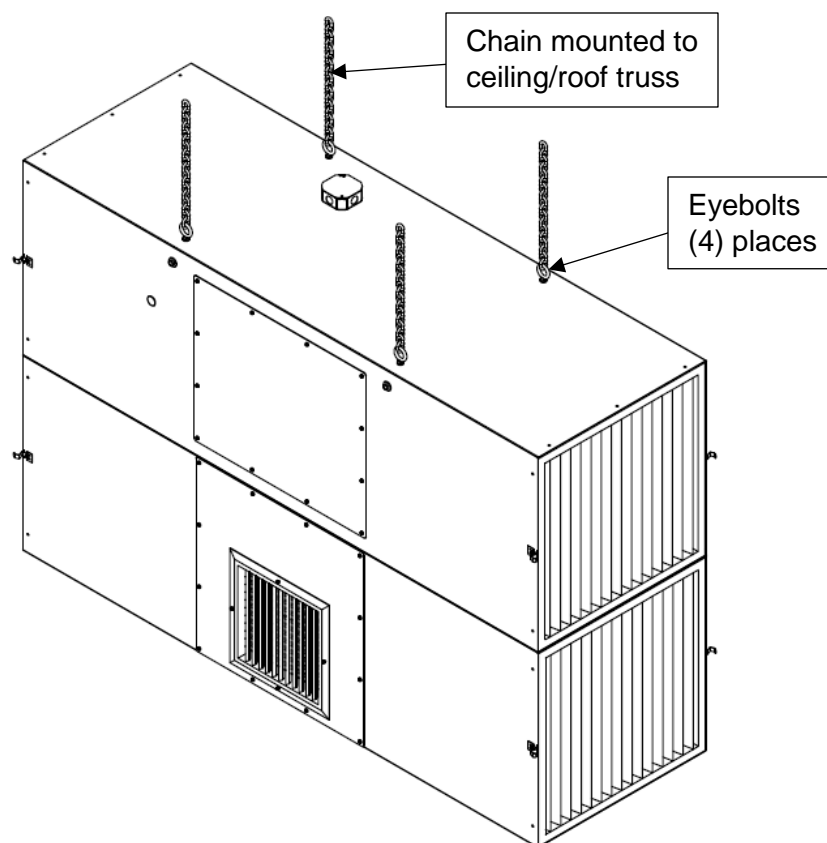

FIG. 2 – Vertical Configuration.
4. Once channels are secured, the MXT is ready to be hung in an appropriate location (See **FIG. 2**).
2. Install wall mount. The brackets have (8) 7/16" holes to mount to wall (4 holes on each angle). The holes are spaced 16" apart horizontally by 24" vertically. **NOTE:** Anchors are not supplied by Micro Air. Minimum embedment depth for a 3/8" dia. wedge anchor is 1-1/2".
3. Lift unit to access the threaded holes on the bottom of the cabinet. **NOTE:** The cabinet can be lifted by installing eyebolts on the top. Eyebolts are not supplied by Micro Air (See **FIG. 2**).
3. Lift unit to access the holes on the bottom of the cabinet. **NOTE:** The cabinet can be lifted by installing eyebolts on the top. Eyebolts are not supplied by Micro Air when the unit is supplied with the floor stand (See **FIG. 2**).